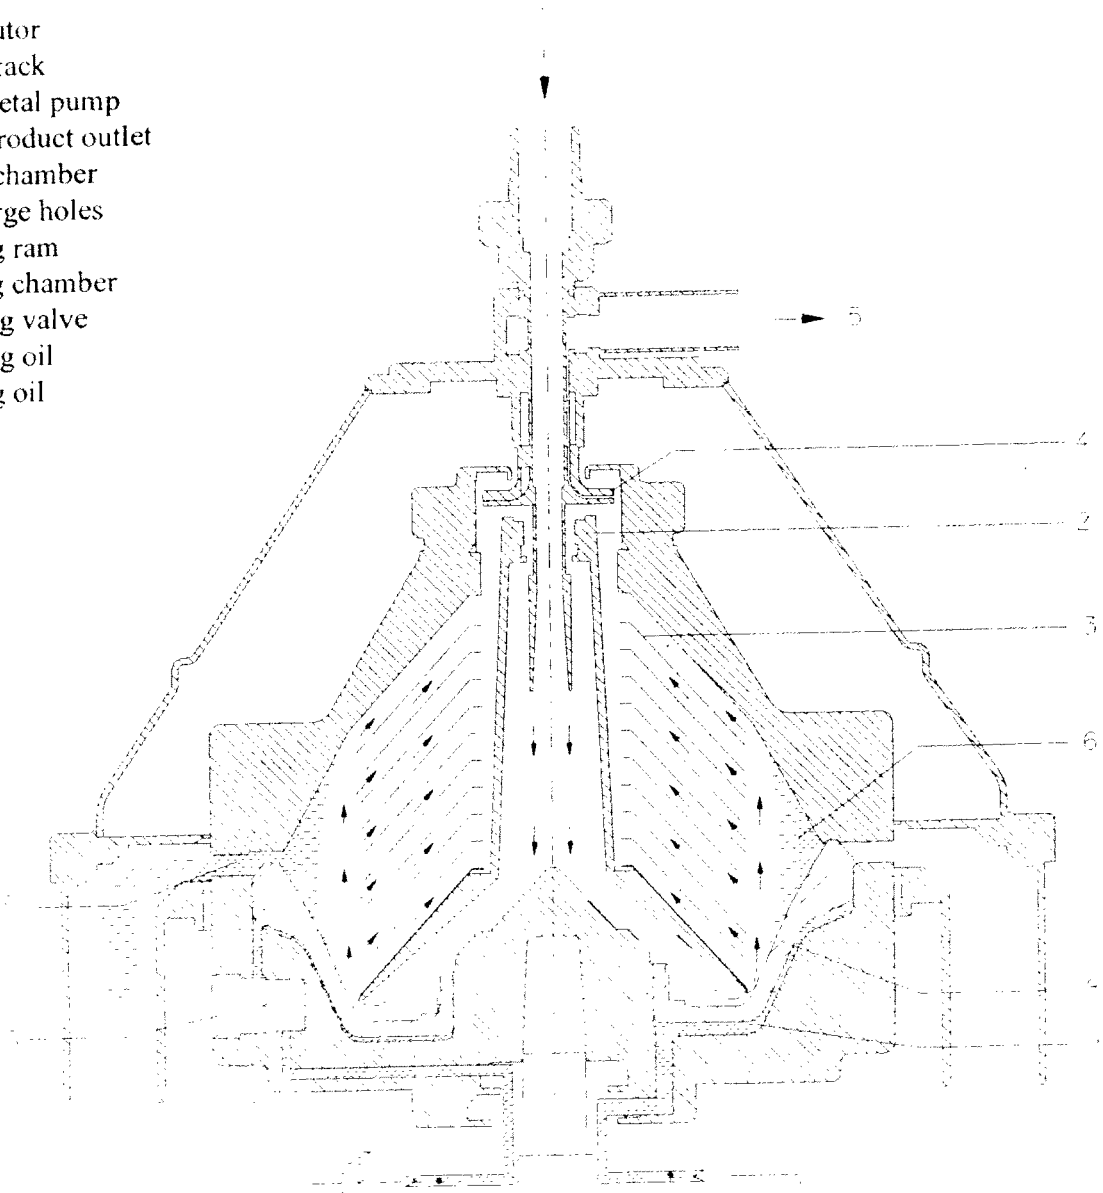

Figure 3.1
The product flows (fig 3.1) into the bowl through feed pipe (1) and into the distributor (2) it undergoes acceleration until it reaches the bowl rotating speed. The distributor (2) conveys the product to the disks stack (3) where the clarification takes place. The great number of disks divides the internal space of the bowl into many thin layers which make more efficient the cleaning. The clarified product flows through the disks stack and reach the upper chamber of the bowl. Here a fixed centripetal pump (4) conveys it under pressure to the outlet pipe line (5).